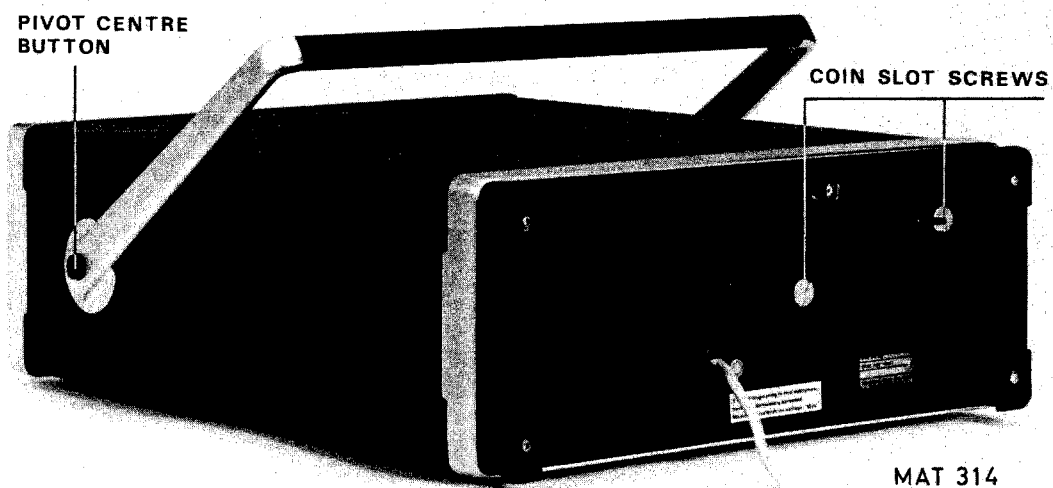

Fig. 2.6. Removing the instrument covers
- Hinge the carrying handle clear of the front cover; to this end, push both pivot centre buttons (Fig. 2.6.).